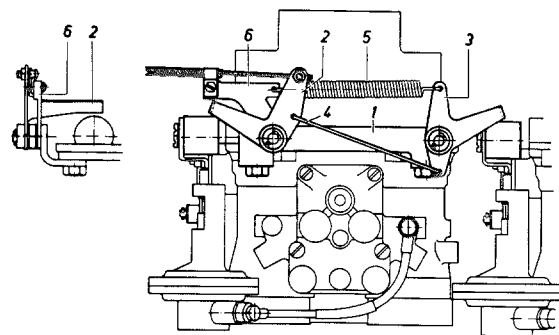

Fig. 30-6/4
10. Insert the choke control into the fixing eye on the intake manifold and clamp the coil spring to the eye by means of the clamping screw (2) (see Fig. 30-6/3).
11. Insert the spring steel wire into the bore of the clamping screws (3) on the choke valve levers of the two carburetors (see Fig. 30-6/3).
12. Install the cheese-head tapping screw of the fixing clip for the choke control on the front panel. Then press the choke control together with the knob (7) toward the inside until there is a distance of approx. 2 mm between the control knob (7) and the guide screw (5) (see Fig. 30-6/1).